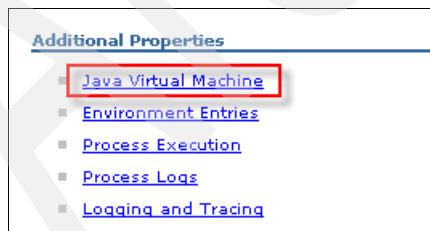

Figure 7-27 Java Virtual Machines
4. Under Additional Properties (Figure 7-27), click **Java Virtual Machine**.